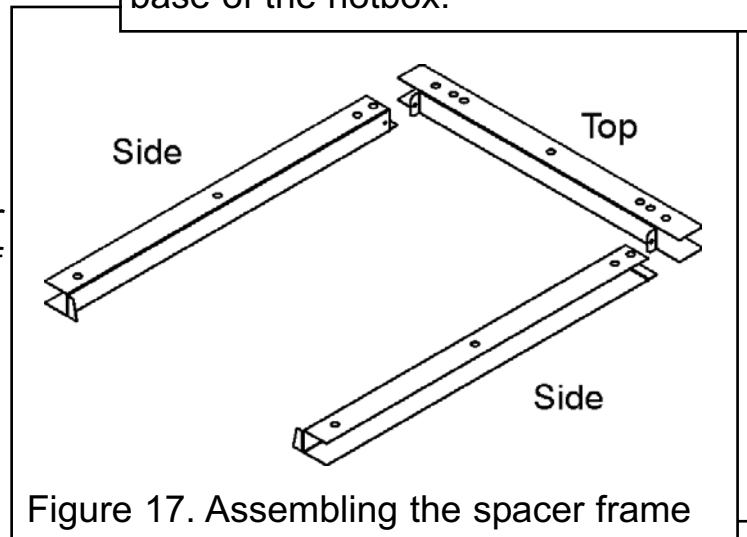

Figure 17. Assembling the spacer frame
**10.** Supplied with the fire is a spacing frame. This is made up of three separate pieces, a top and two sides. The three pieces are identified in figure 17.